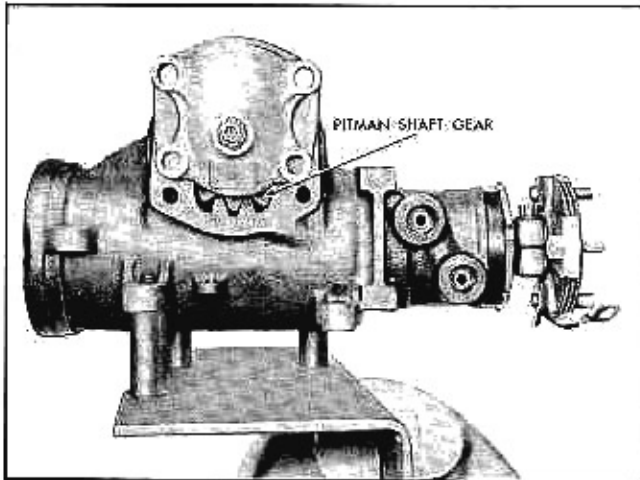

Fig. 9A-8 Position of Pitman Shaft Gear for Removal
2. Rotate cover as necessary to see when pitman shaft is centered in gear housing opening while rotating gear (stub shaft) flange. See Fig. 9A-8.